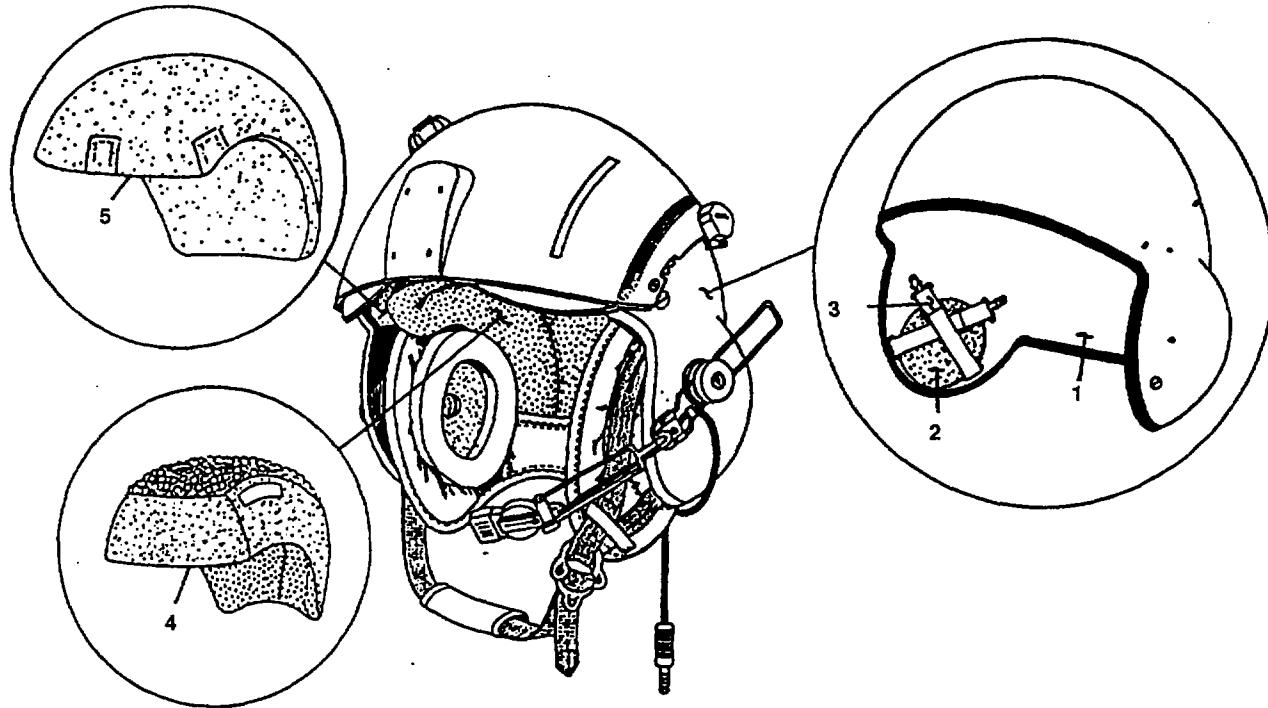

Figure 1-2. SPH-4B Helmet Shell and Liner System
a. Helmet Shell (Figure 1-2). Finished with rubber edge beading, the lightweight composite helmet shell (1) protects the head from Impact. Chafing pads (2) prevent the earcups from chafing against the shell. Cross straps (3) regulate earcup tension, thereby controlling earseal compression for optimum fit and noise reduction.
b. Liner System (Figure 1-2). The SPH-4B liner system replaces the sling suspension systems of earlier SPH models. It consists of two liners: an energy-absorbing liner and a thermoplastic liner.
(1) Energy Absorbing Liner. The polystyrene energy-absorbing liner (5) absorbs and reduces impact forces. It is attached to the inside surface of the helmet shell with hook-and-pile fasteners.
(2) Thermoplastic Liner. The liner (4) is a lightweight comfort liner. It consists of layers of molded plastic attached to a removable, washable cloth cover. The sides of the cloth cover are made of pile fastener to attach the liner to hook fastener on the inside surface of the energy-absorbing liner. The preformed liner fits most head shapes.